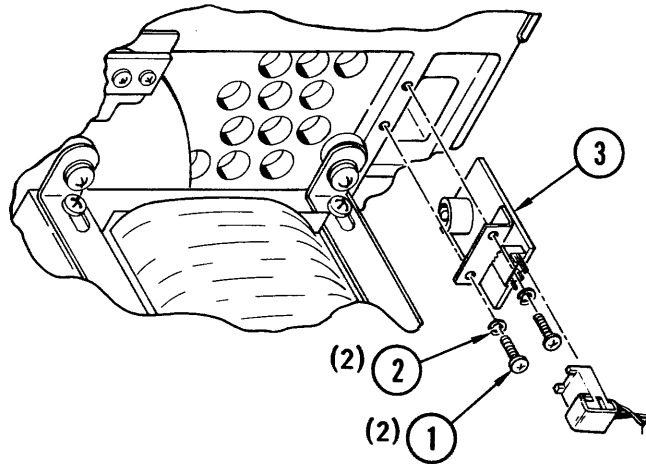

Figure 4-18. Tape-in-Path Sensor, Transmitter
4-32. **Removal and Replacement (Figure 4-18).** Place the transport in service access position in accordance with paragraph 4-3 and proceed as follows:
- b. Remove two screws (1, Figure 4-18) and lockwashers (2) and pull transmitter (3) carefully through hole from back of top plate.
- c. Position replacement sensor transmitter carefully in place through hole from back of top plate and secure with screws (1) and lockwashers (2).
- b. Remove attaching screw (1, Figure 4-18), lockwasher (2), and flatwasher (3) and remove tape-in-path sensor receiver (4). Save attaching parts for reassembly.
- c. Install replacement receiver using screw (1), lockwashers (2) and flatwasher (3).